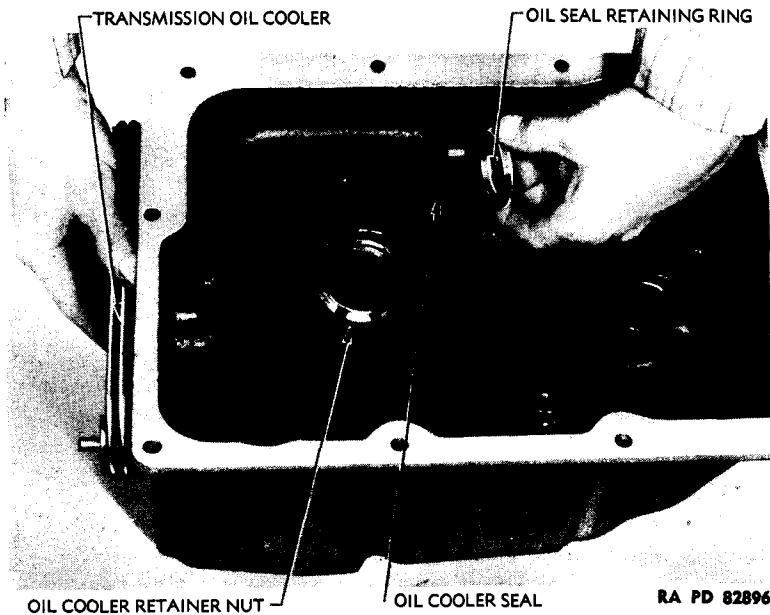

Figure 91 — Installing Oil Cooler Seals
(1) **POSITION OIL COOLER IN OIL PAN.** Install rubber composition water seals on intake and outlet pipes on oil cooler. Install oil cooler through opening in front of oil pan until end of long oil cooler pipe protrudes slightly through hole in oil pan. **NOTE: Long oil pipe on cooler should be toward right side of oil pan.** Position oil seal, oil seal retainer, and spanner nut over end of long oil pipe (fig. 91). Push oil cooler the rest of the way into oil pan.